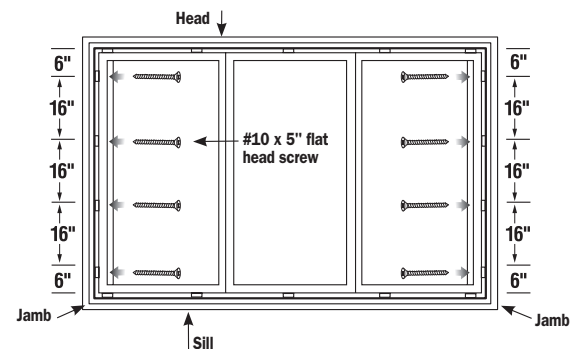

Figure 3
- Fasten the screws in as close as possible to the back side of real-wood mullion mounted on jamb boards. Make sure that you hit the stud with screw and not the sheathing or masonry surface of wall (**Figure 3**).